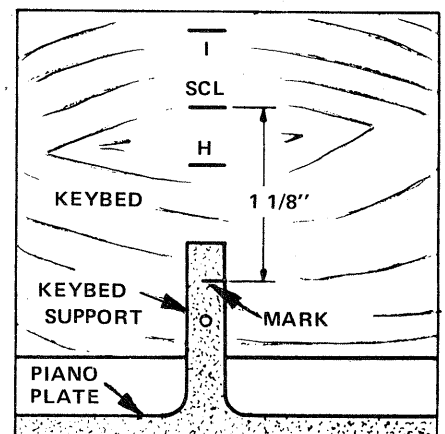

FIGURE 1-46 Measure toward the rear of the Keybed 1-1/8" from the SCL marks.
4. Measure from the marks labelled SCL, along side each Keybed Support, 1-1/8" TOWARD the REAR of the Keybed and mark the Keybed Supports. If the measurement ends beside the Support, the mark(s) on the Keybed Support(s) indicate the amount that will have to be trimmed from the end of the Support(s). See FIGURE 1-46. Proceed to STEP 1-42.